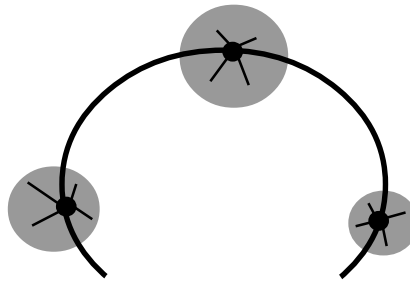

Figure 2-3: Sparse planting irrigated with multi-outlet emitters
- **Individual plants** are generally irrigated by individual emission devices that supply a precise amount of water directly to the plant's root zone (see Figure 2-3). These devices include single- and multi-outlet emitters, as well as micro-bubblers.